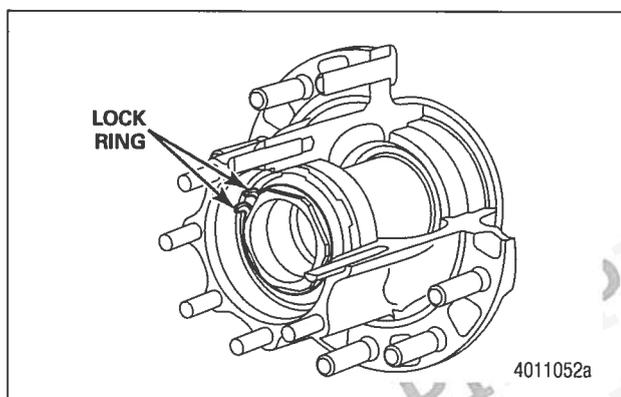

Figure 2
4. Check for the presence of the lock ring on all drive wheel axle wheel ends. The lock ring is a bright red color. Refer to Figure 2 for the location of the lock ring.